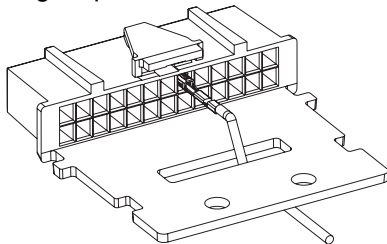

Figure 2a. Wire Strain Relief
2. Route the wire with the contact terminal through connector as shown in *Figure 2a*, or for applications with multiple accessories connected to the mobile radio, route wires as shown in *Figure 2b* and secure with a cable tie after completing step 3.